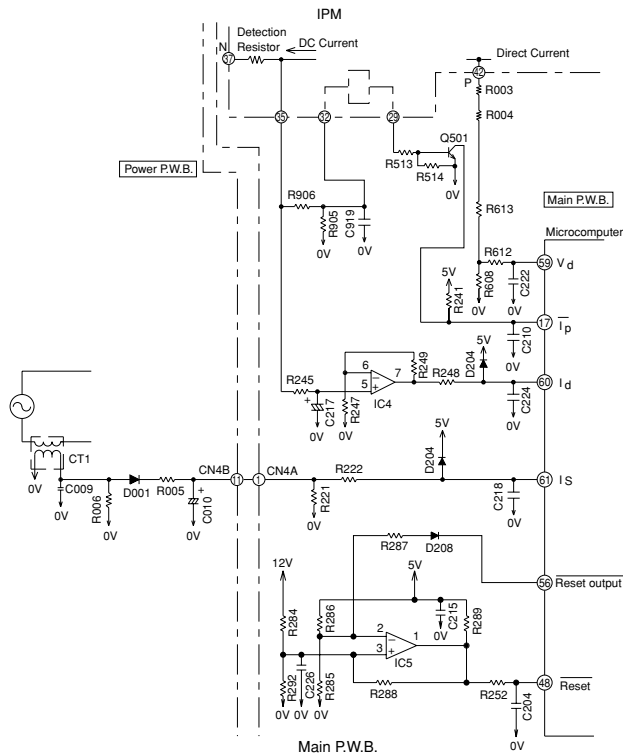

Fig. 6-2
ID OVL is watching and limits the compressor current through the detection resistor, which is built in IPM in order to control the compressor reliability. Since the compressor reliability is related with its speed, the ID OVL value is also linked with the compressor speed. Fig.6-2 shows an ID OVL limitation curve.
(2) ID OVL
Fig. 6-2. The filter consisting of R245 and C217 removes high harmonic frequencies from the voltage generated by the current flowing to Detection resistor; R245 and C217 average the voltage. This voltage is then input to IC4 pin ⑤ and supplied to microcomputer pin ⑥. The microcomputer compares this input with the set value, and if the input exceeds the set value, it enters overload control status.